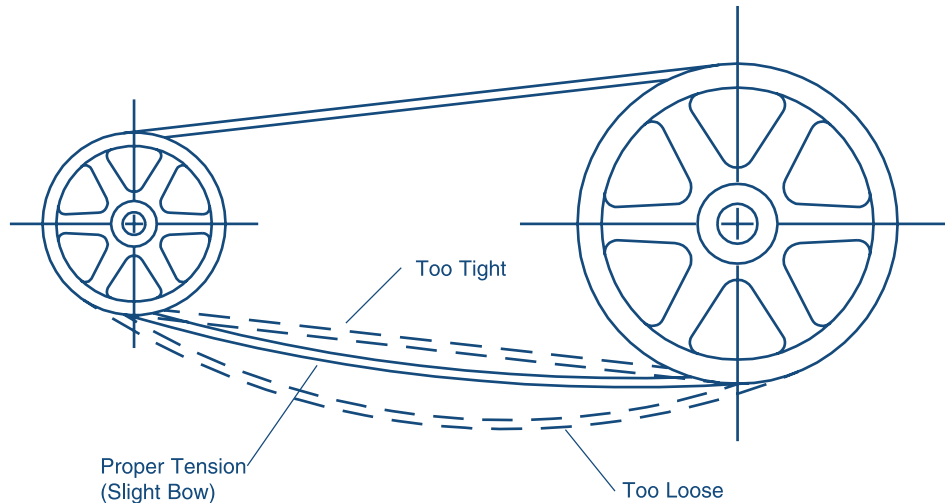

Fig. 4 Belt tension.
- (i) Shorten the center distance between the driven and driver sheave so the v-belts can be slipped into the sheave groove without damage. While the v-belts are still loose on the drive, rotate the drive until all the slack is on one side. Then increase the center distance until the v-belts are snug (Figure 4). NOTE: Never “roll” or “pry” the v-belts into the sheave grooves. This can damage the v-belt cords and lead to v-belt turnover, short life, or actual breakage. Moreover, it is both difficult and unsafe to install v-belts this way. Keep take-up rails, motorbase, or other means of center distance adjustment free of dirt, rust, and grit. Lubricate adjusting screws and slide rails as required.